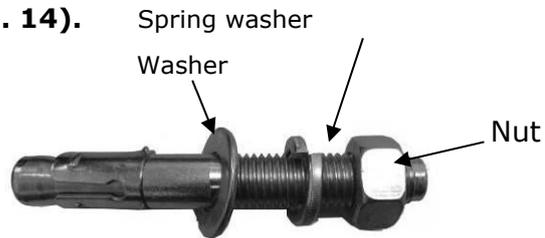

Fig. 14
1. Prepare the anchor bolts (**See Fig. 14**).